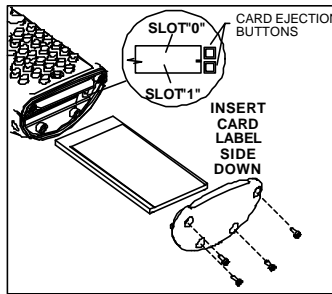

Figure 4-12: Apex PDT Card Slot Configuration
5. Place the BIOS Upgrade Flash Card into the Slot 0 (top) card slot with the label side down (see Figure 4-12). When properly installed and fully seated, the card ejection button will be out.